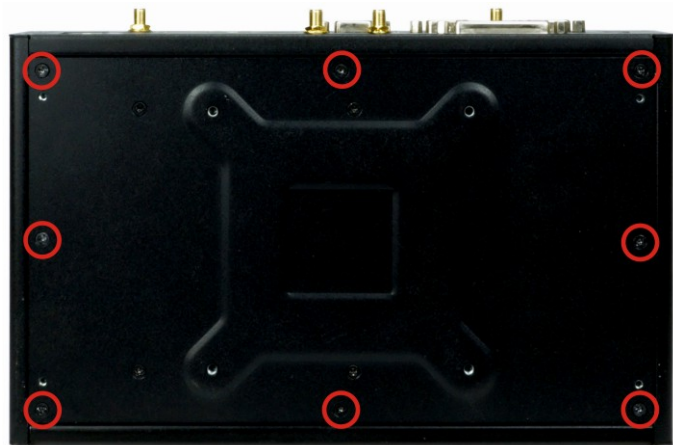

Figure 3-1: Bottom Panel Retention Screws
Step 2: Remove the bottom panel retention screws to detach the bottom panel from the chassis (**Figure 3-1**).